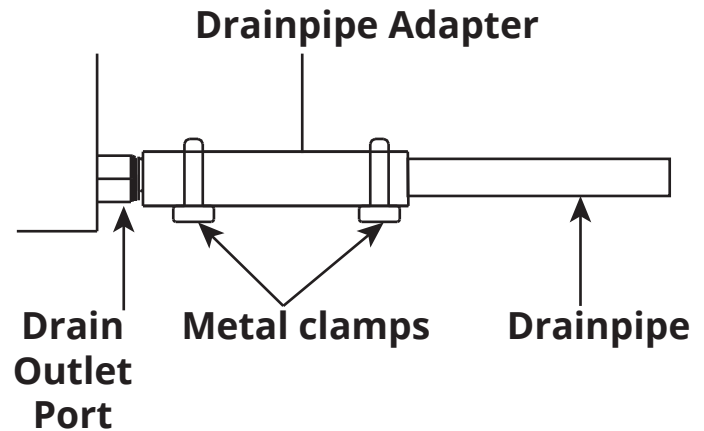

Fig. 5.16
1. First, you will install the drainpipe adapter to the drain outlet port of the cassette, using one of the supplied clamps to secure it in place by tightening the clamp (refer to Fig. 5.16).
2. Slide the other metal clamp onto the other end of the drainpipe adapter. Then, slide the drainpipe into the end of the adapter and secure it by tightening the clamp (refer to Fig. 5.16).